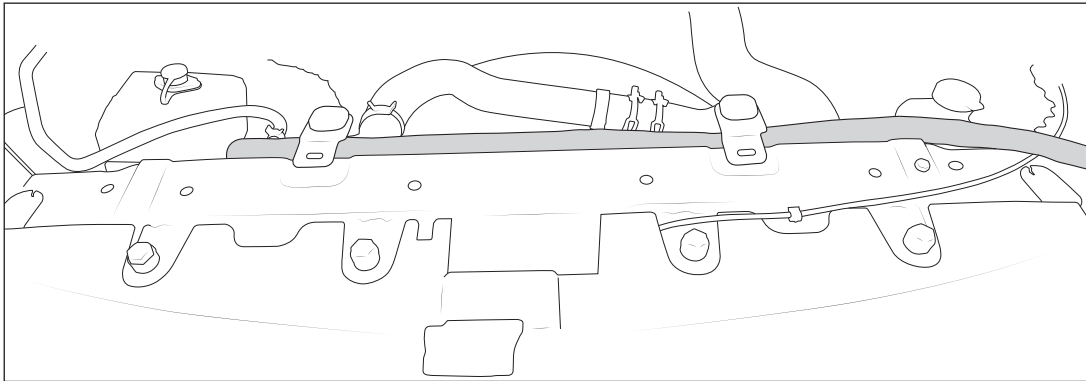

Figure 8
5. Run the positive cable across the front of the vehicle. Detach the radiator supports to run the loom underneath as shown (fig. 8) then reinstall fasteners.